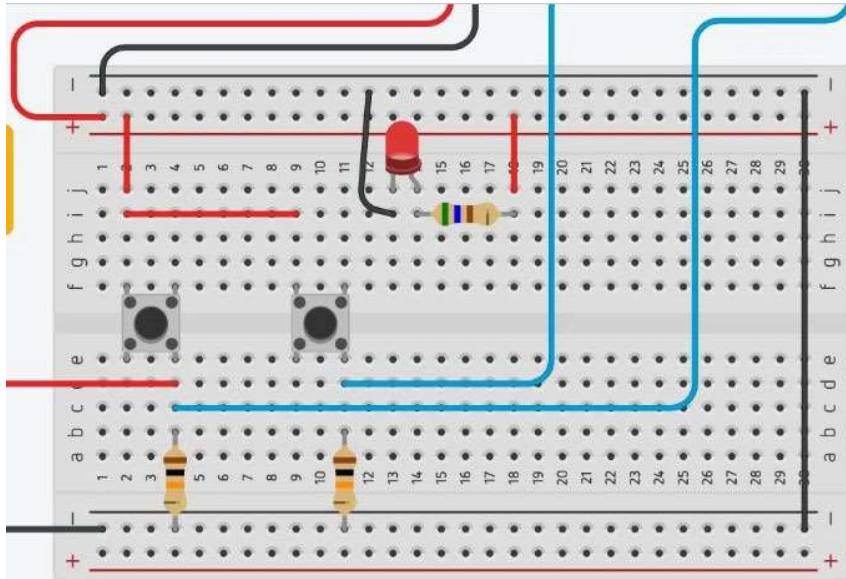

Fig. 6
6. Build the circuit as shown in **Fig. 6**.